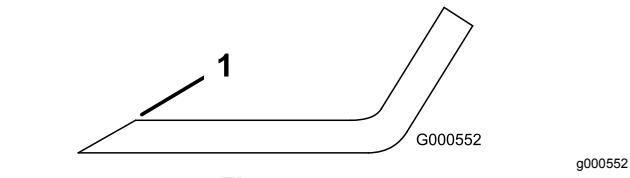
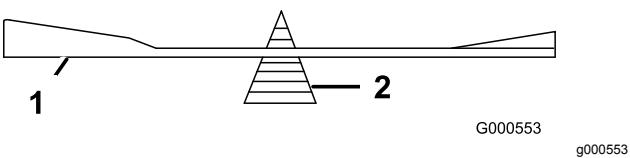

Figure 54
Figure 55
- 2. Check the balance of the blade by putting it on a blade balancer (Figure 55). If the blade stays in a horizontal position, the blade is balanced and can be used. If the blade is not balanced, file some metal off the end of the sail area only (Figure 54). Repeat this procedure until the blade is balanced.